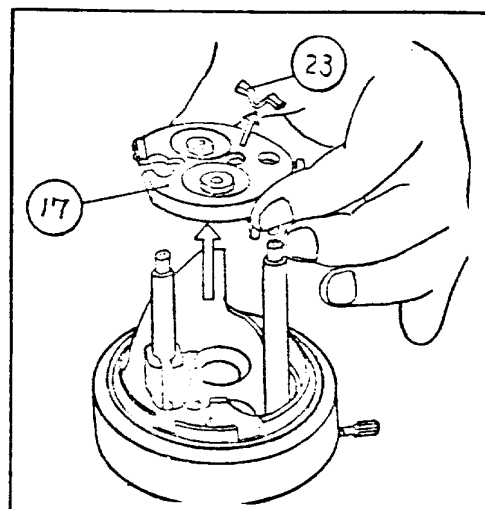

Fig. 44
- 6) Removing the spring hook (23), take out the lens carrier (17) (Fig. 44).